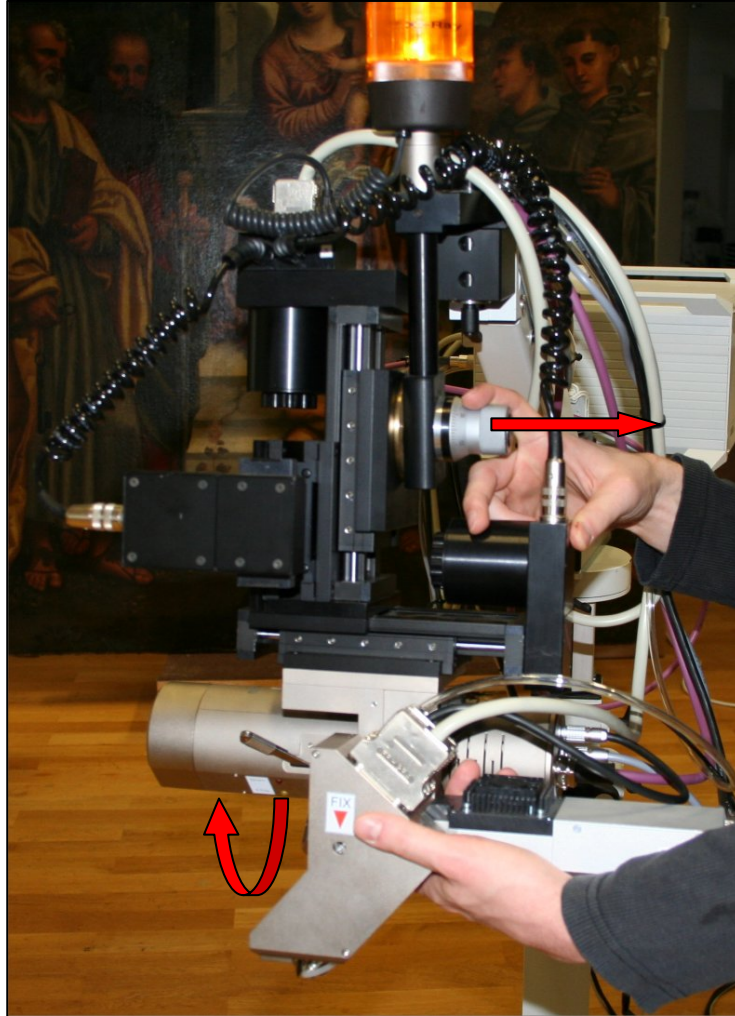

Fig. 40: Swivelling the measuring head
Turn measuring head (see Fig. 40, pos. 1):
Swivelling measuring head (see Fig. 40):